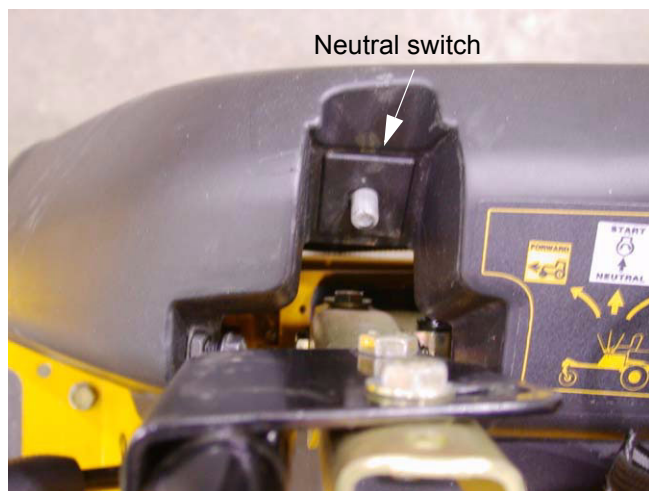

Figure 15.3
15.3. The NEUTRAL SWITCHES are in the console on each side of the unit. They are normally open/ normally closed switches. See Figure 15.3.